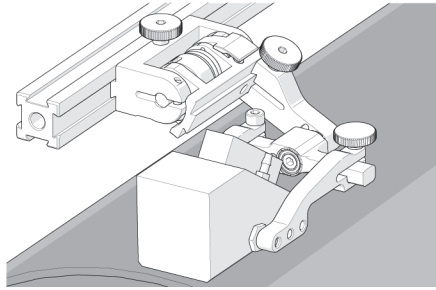

Figure 2-33 Gently lower probe
4. Gently lower the probe holder and wedge to the scanning surface (see Figure 2-33 on page 60).